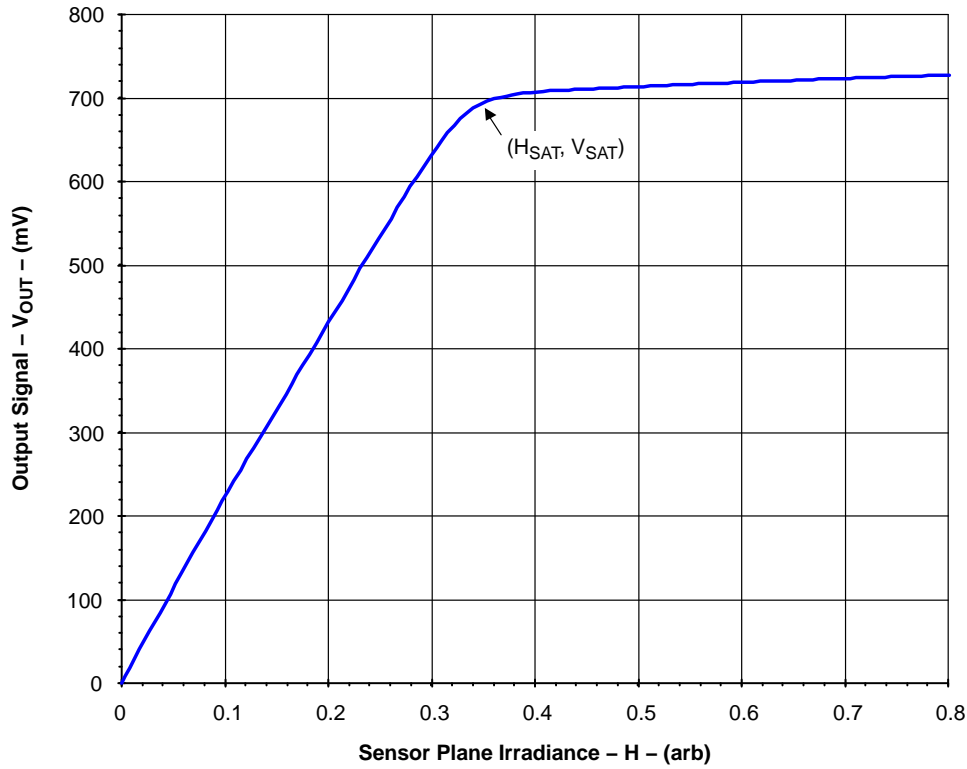

Figure 6. Typical KAI-0373 Photoresponse
3. For a  $100 \times 100$  pixel region under uniform illumination with output signal equal to 80% of saturation signal. Saturation signal,  $V_{SAT}$ , is the output voltage at the knee of the output vs illumination curve as shown in Figure 6.
4. This is the global variation in chip output across the entire chip measured at 80% saturation and is expressed as a percentage of the mean pixel value. Saturation signal,  $V_{SAT}$ , is the output voltage at the knee of the output vs illumination curve as shown in Figure 6.